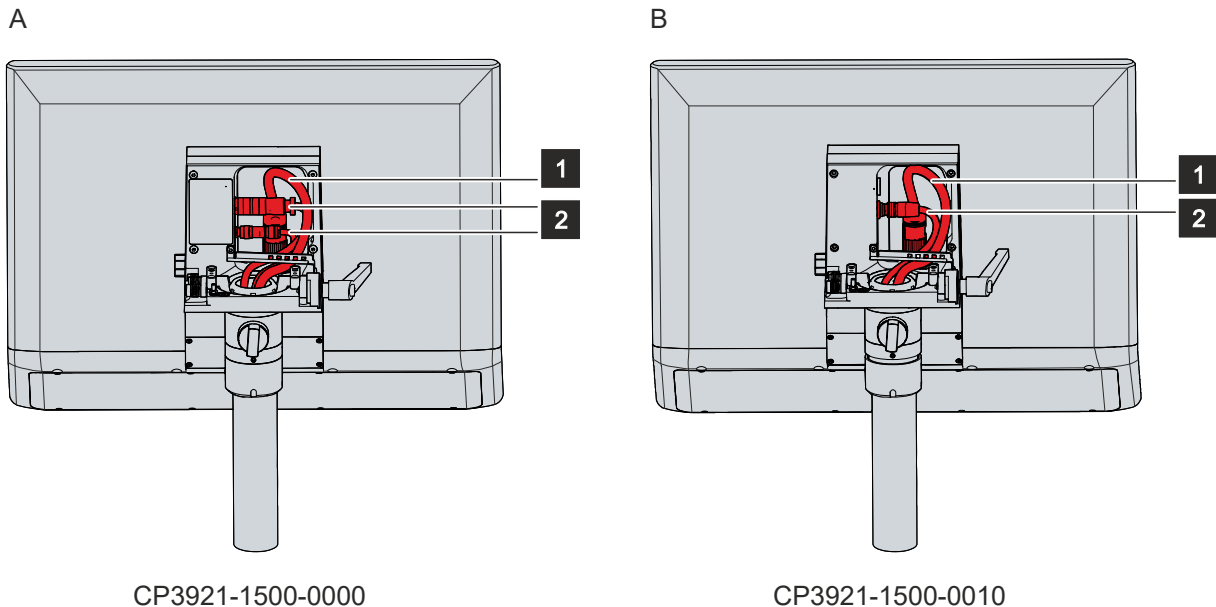

Fig. 28: Routing the cables in the mounting arm adapter
The connections of the control panel are located inside the mounting arm adapter. The 19-pin round connector is used to connect the power supply and the push buttons S1-S4 of the push button extension. To avoid cable damage, it is essential that you follow the cable routing shown, each with the mounting arm adapter oriented downwards (see Fig. 28).
3. Route the signal and power supply cable inside the mounting arm adapter as shown in Figure 28.
4. Route the data cables inside the mounting arm adapter as shown in figure 28.